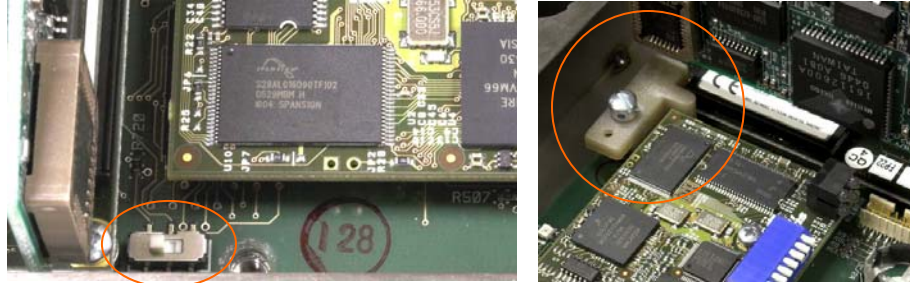

Figure 2-85: Metrology Security Switch (left) and Cover Installed (right)
2. Install the Security Cover to prevent access to S1, the Metrology Security Switch indicated in Figure 2-85, Main PCB Switches.